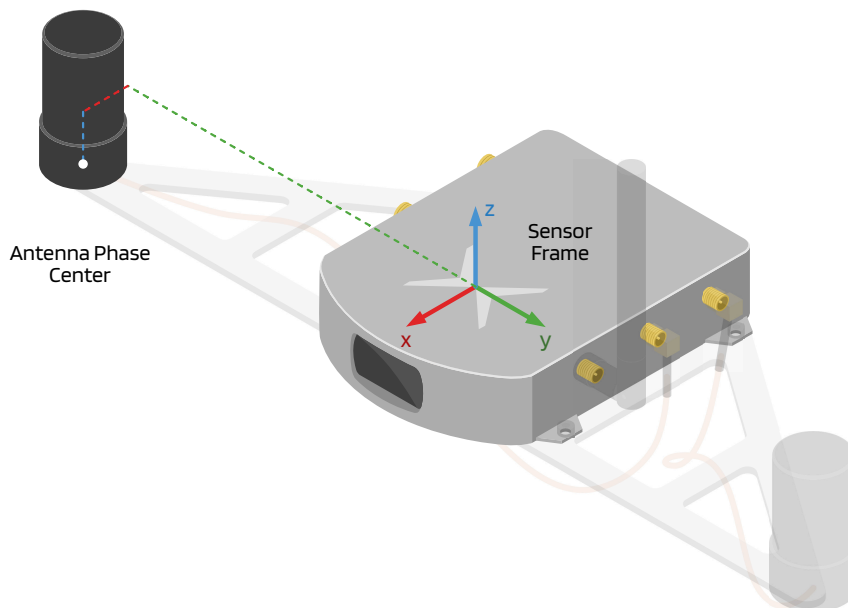

Figure 4.1.: Sensor-to-antenna distance example
- Measure the sensor-to-antenna distances with millimeter accuracy (See Figure 4.1). Note that the antenna reference point corresponds to its phase center, described in the corresponding antenna datasheet. The default extrinsic parameters correspond to the measurements of the starter kit.